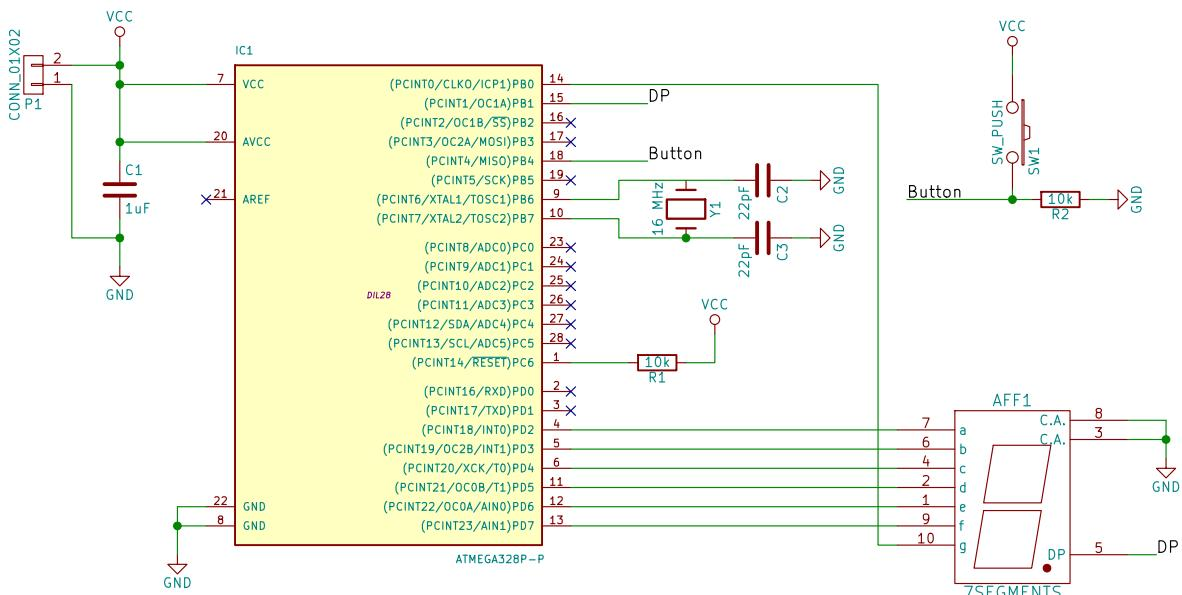

Figure 7: Completed schematic drawing of Example 1 circuit.
- f) Repeat steps a–e for the connection between ATmega328P’s PB4 pin and the push button. Refer to the final schematic (Fig. 7) for how it looks.
12. The final schematic should look like that in Fig. 7.